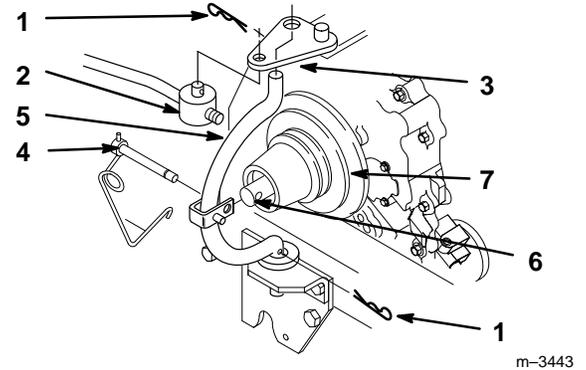

Figure 20
2. Remove hairpin cotters from trunnion and bottom of yoke (Fig. 20).
3. Unlatch and remove locking clevis pin that secures yoke assembly to clutch shaft. Pivot yoke out and forward to remove from clutch shaft and engagement plate (Fig. 20).
4. Remove belt from pulley (Fig. 20).
5. Assemble yoke and engagement plate and attach locking clevis pin, trunnion and hairpin cotters to secure (Fig. 20).